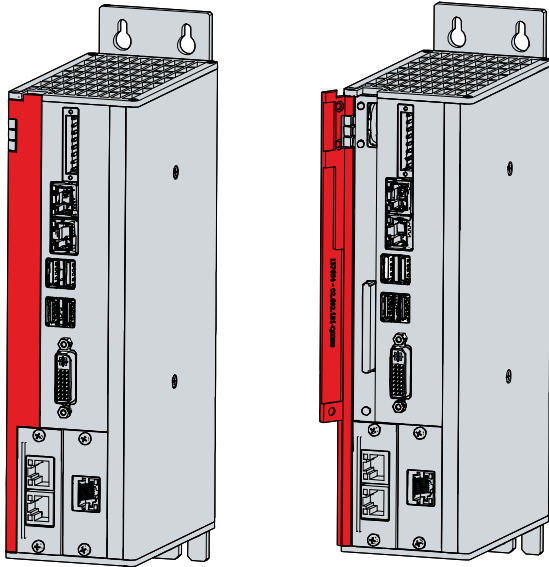

Fig. 20: Tool-free access to battery and storage media
2. Insert the new battery into the PC by hand. Pay attention to the correct polarity. The negative pole of the battery must point towards the voltage socket of the industrial PC (see Fig. 20).